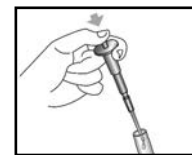

Figure 3
3. Hold the minipet over the **reaction tube** (green screw cap tube), depress the plunger to dispense sample (fig. 3).